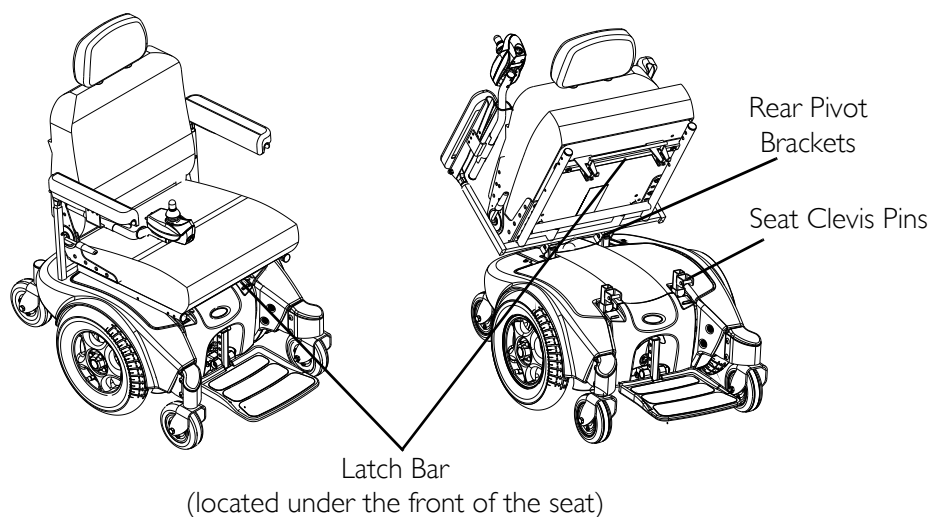

FIGURE 7.3 Removing/Installing the Seat Assembly
NOTE: For this procedure, refer to FIGURE 7.3 on page 37.
1. Position the seat in the rear pivot brackets as shown in FIGURE 7.3.